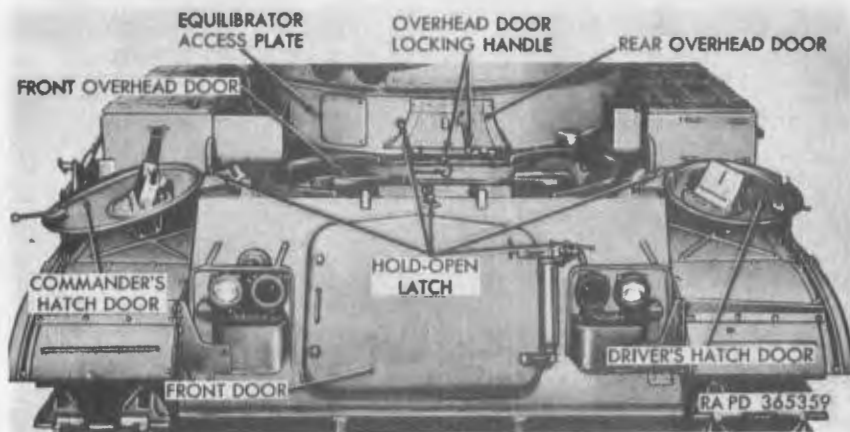

Figure 8. Driving compartment overhead doors in open position—early vehicles.
14. Driving Compartment Overhead Door Controls—Early Vehicles (fig. 8)